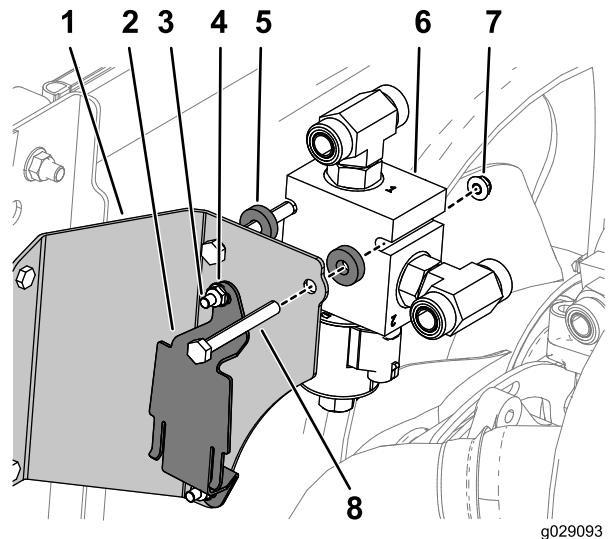

Figure 16
3. Install the radiator-overflow-tank bracket onto the manifold-assembly bracket using 2 bolts (1/4 x 3/4 inch) and 2 nuts (1/4 inch) as shown in Figure 16.
5. Install the manifold assembly onto the bracket using 2 bolts (5/16 x 2-3/4 inch), 2 spacers, and 2 nuts as shown in Figure 16.